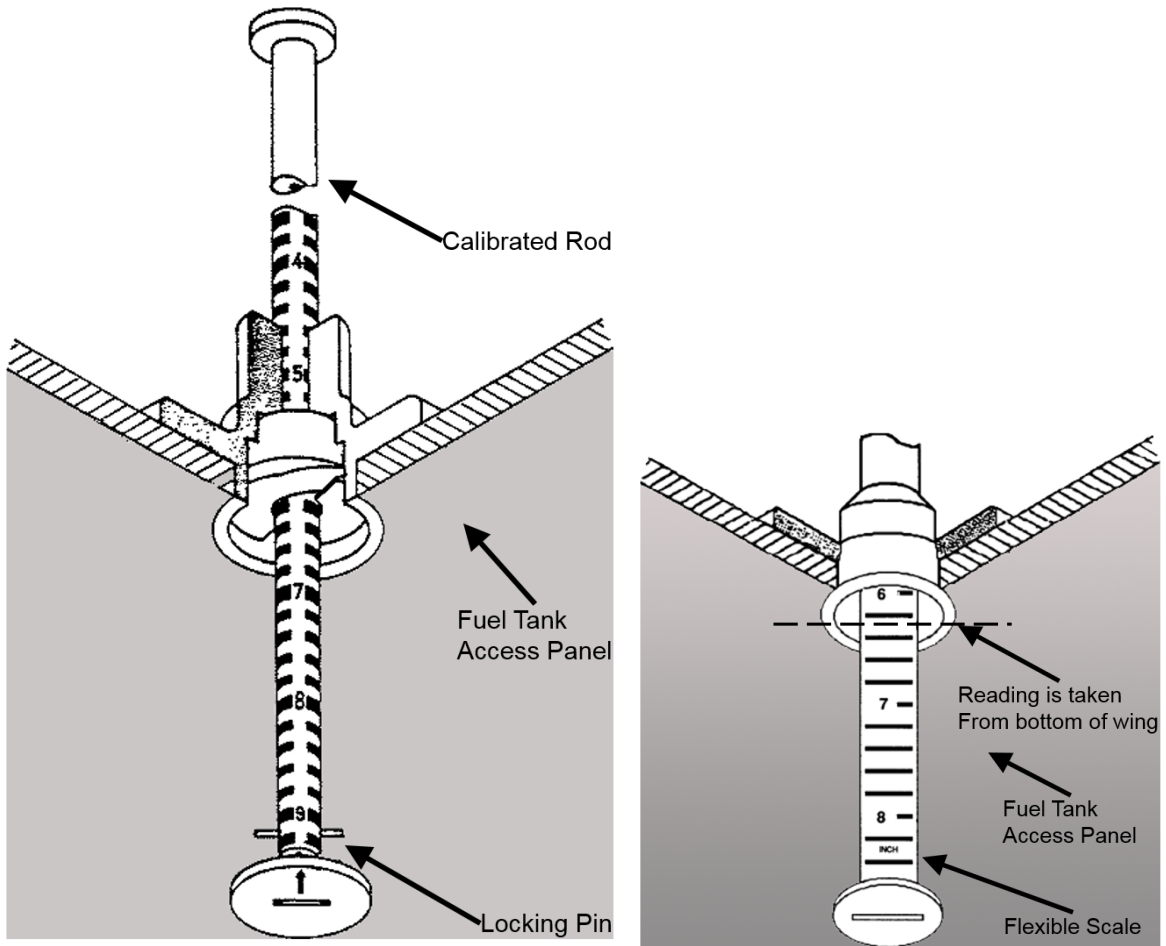

Figure 5-20: Dripstick
- C. Five incrementally marked dripsticks are located in the fuel tank access doors. A dripstick installation and markings in inches is shown Figure 5-20: "Dripstick".